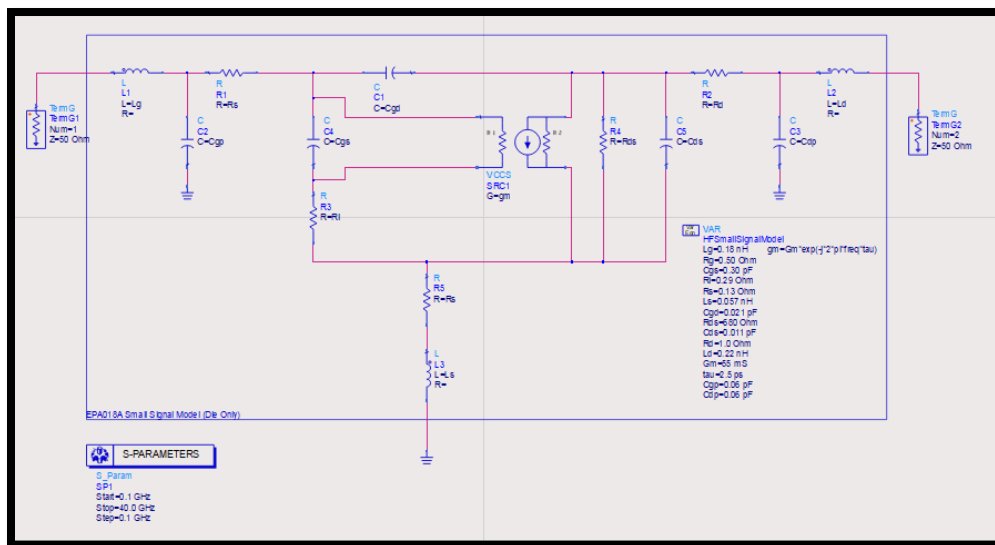

Figure 1: Small Signal Model Used in S Parameter Simulation (No Parasitics)
2. Use that value as Gm in the small signal model (figure 1 and 2)